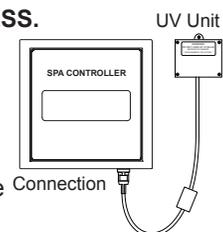

FIGURE 2
1. Turn the breaker to the spa OFF. **DRAIN YOUR SPA.** Disconnect the CLEARRAY System from the controller, Figure 2.